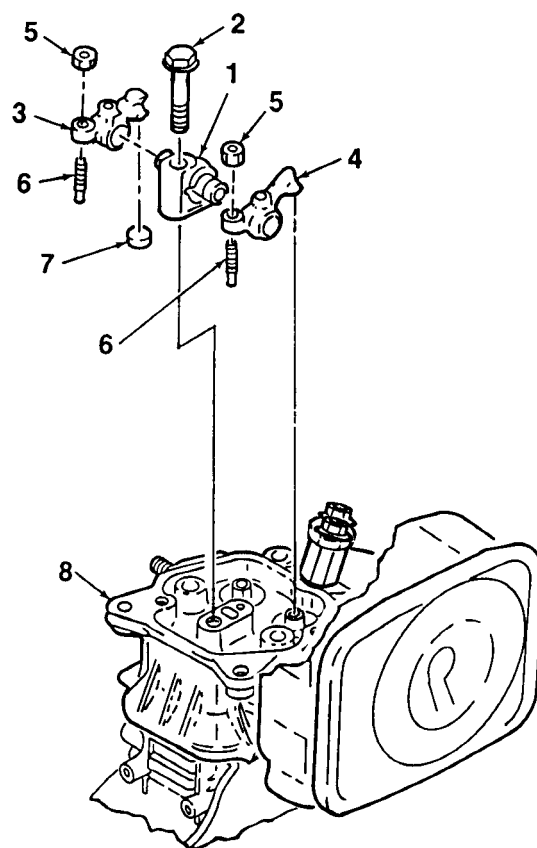
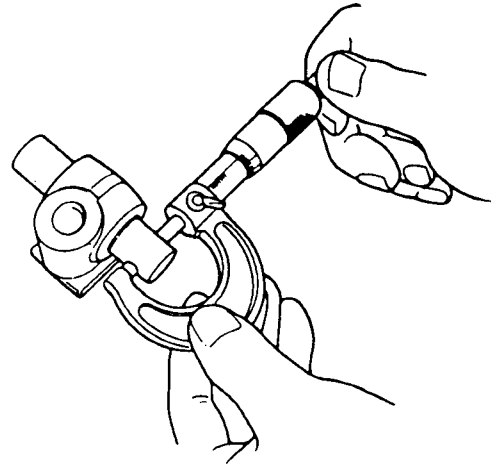
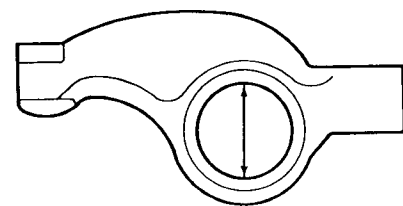

Figure 4-6. Rocker Arm Assembly Removal
Figure 4-7. Rocker Arm Support Shaft OD
Figure 4-8. Rocker Arm ID
1. Remove rocker arm support (1, Figure 4-6) from cylinder head (8) by removing screw (2). Place assembled support and rocker arms on a clean work surface for further disassembly.
2. Remove rocker arms (3, 4) from rocker arm support (1). Remove lock nuts (5), adjusting screws (6), and valve cap (7).
1. Measure the outside diameter (OD) of the rocker arm support shaft (Figure 4-7). OD must be 0.4685 inch (11.90 mm), minimum. Replace support (1, Figure 4-6) if out of limits.
2. Measure the internal diameter (ID) of the rocker arms (Figure 4-8). ID must be 0.4764 in (12.10 mm), maximum. Replace rocker arm (3, 4, Figure 4-6) if out of limits.
1. Install lock nuts (5, Figure 4-6) and adjusting screws (6) onto rocker arms (3, 4). Install valve cap (7). Install rocker arms onto rocker arm support (1).
2. Install rocker arm support (1) onto cylinder head (8) using screw (2). Torque screw to 14.5 to 16.5 ft-lbs. (200 to 230 kg-cm).